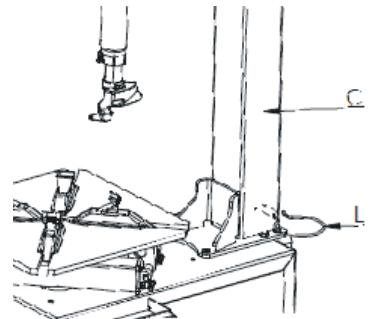

Fig. 7
- Take the support ring (L, fig.7) out of the accessory box.
- Now place the support ring in the holes in the column (C, fig.7).